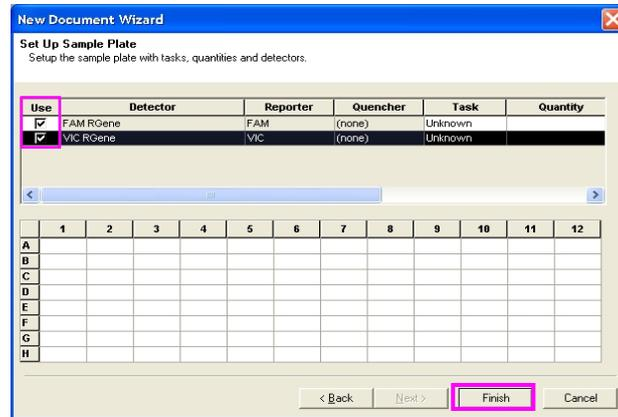

Fig.9
- Click on **FINISH** (Fig. 9).